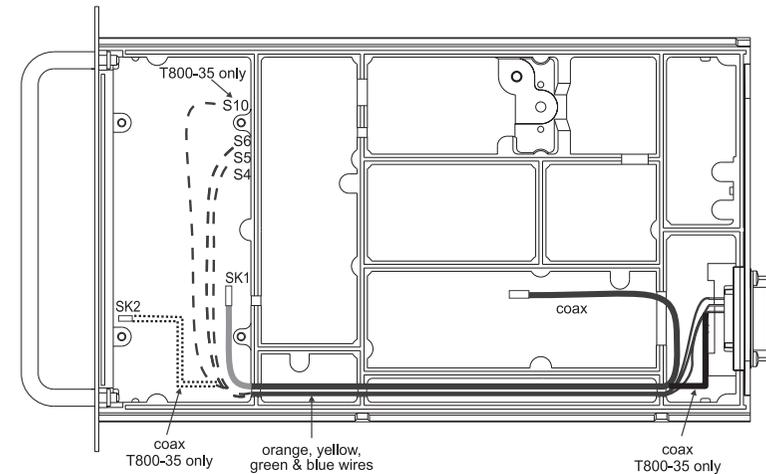

Figure 5 Cable Routing
- Connect the coaxial cable provided between SK1 on the T800-35 PCB and the socket fitted in place of the TCXO on the T800 transmitter as shown in Figure 5.